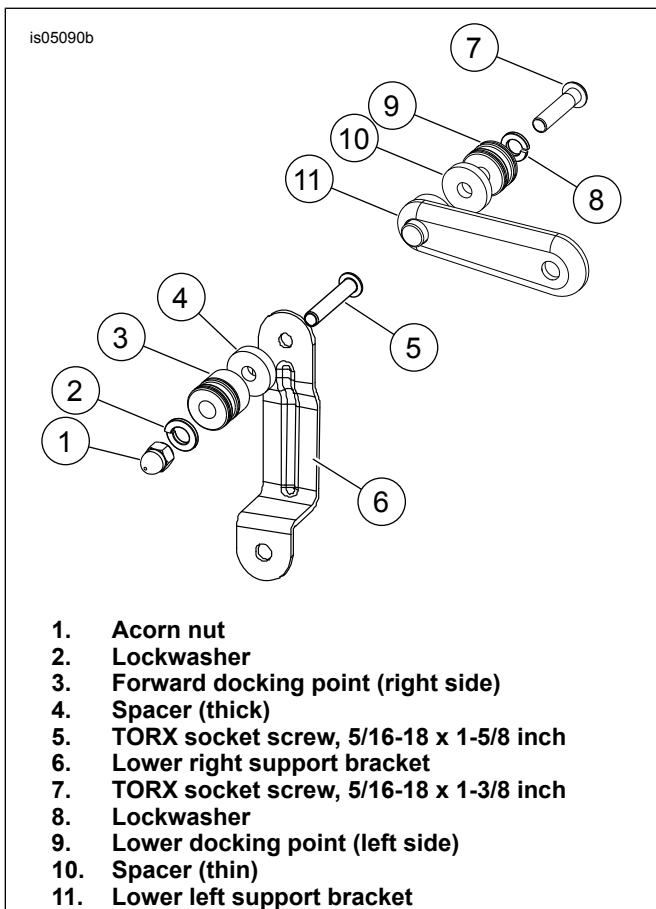

Figure 2. Support Bracket Assemblies (2007 model year)
1. See Figure 2. Install the 1-5/8 inch hex socket screw (5) through backside of right lower bracket (6) and stack the following parts in order from the bracket out; spacer (4), forward docking point (3), lockwasher (2) and acorn nut (1).
1. See Figure 2. Using the 1-3/8 inch TORX® socket screw (7) stack the following parts in order; lockwasher (8), lower docking point (9), spacer (10) and assemble to bracket (11).